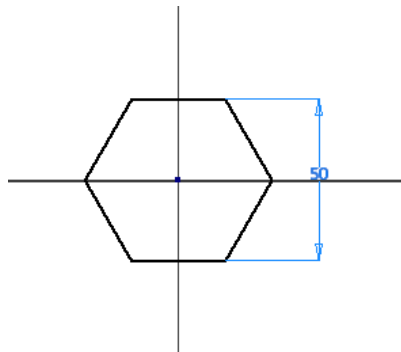

Figure 17-37 Sketch for creating the Hexagonal shaft
5. Create a hexagon on the XY-plane, as shown in Figure 17-37.